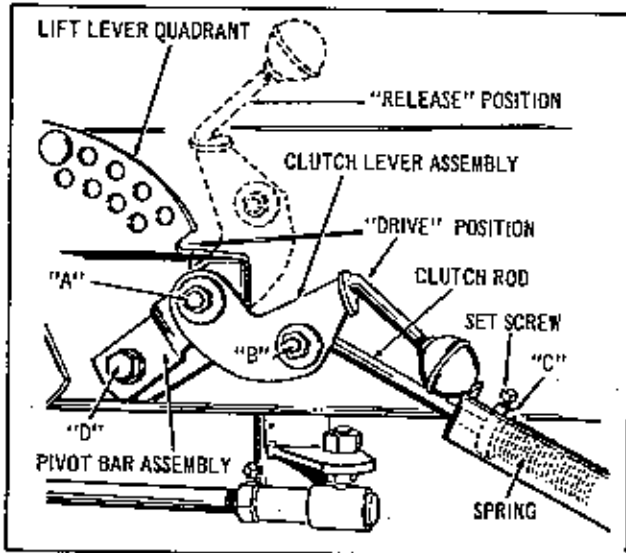

Figure 4
4. Remove Hex. Cap Screw "D" from frame of tractor and mount bracket in place on Lift Lever Quadrant. See Figure 4. Position the Pivot Bar Assembly flush against bottom of Lift Quadrant and re-install Hex. Cap Screw and tighten securely. Check alignment of Drive Pulley on Bevel Gear Shaft, driven pulley of Power Take-Off, and Idler Pulley, and adjust Driving Pulley if necessary.
Operation of the Power Take-Off is controlled by movement of the Clutch Lever Assembly. See Figure 4. When the Clutch Lever is in the forward raised position, the Clutch Rod releases the tension holding the Idler Pulley against the Drive Belt, and power will not be transmitted to the driven pulley of the Power Take-Off Assembly. When the Clutch Lever is in the back, depressed position, the Clutch Rod applies tension to the Idler Pulley and as the Idler Pulley takes up the slack in the Drive Belt, power is transmitted from the Drive Pulley on Bevel Gear Box Shaft to the driven pulley of the Power Take-Off. Figure 4 shows Clutch Lever in Drive position.
At points "A" and "B" of Figure 4, check tightness of Hex. Nut to be sure that Clutch Lever Assembly and Clutch Rod are free to pivot without binding.
Place Clutch Lever in "Drive" position and observe clearance between collar "C" (Figure 4) and end of bracket. When implement is attached to tractor, this clearance should normally be approximately  $3/4$ " ; at this setting the Idler Pulley should be snugly against the Drive Belt. If additional tension is required, release Clutch Lever and loosen Set Screw on Collar and Slide Collar farther back on Clutch Rod. Retighten Set Screw in Collar and put Clutch Lever in Drive position. Recheck clearance. The tension of the Idler Pulley against the Drive Belt must be sufficient to operate whichever tractor attachment is being used. Any additional tension is unnecessary and will only cause premature failure of Belts and Idler Pulley bearings.